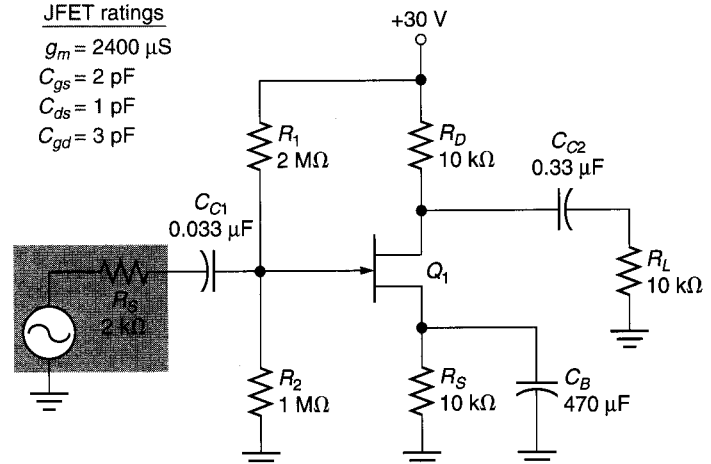

FIGURE 14.35
31. Calculate the value of  $f_{iG}$  for the amplifier in Figure 14.35.
33. Calculate the value of  $f_{iD}$  for the amplifier in Figure 14.35.
35. Calculate the values of  $f_{2G}$  and  $f_{2D}$  for the amplifier in Figure 14.35.